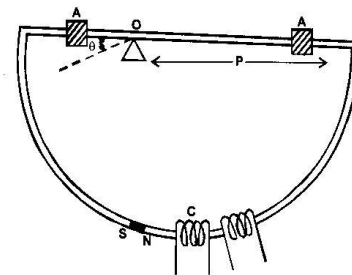

Fig.2. THE MECHANICAL PART WITH MAGNET NS PASS THROUGH COIL 'C' WITH A MEASURABLE VELOCITY
Magnet NS pass through the coil C (by using coil 1 OR 2) with varying velocities (Fig.2.) An aluminum frame can swing about a pivot O, its period adjustable by sliding the loads A, A. If D is released from angle θ_0 from the equilibrium, the velocity V_{max} with which the magnet passes through the coil is given by
5. Repeat after shifting the loads A, A (Fig.2.) so that